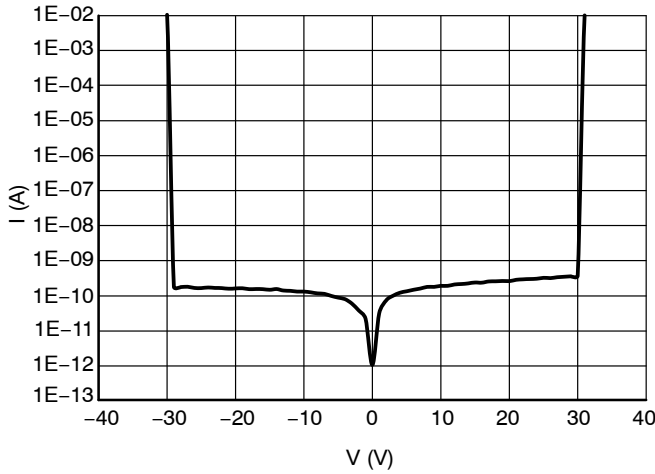

Figure 1. IV Characteristics
1. Non-repetitive current pulse per Figure 1.
- Pulse waveform per Figure 1.